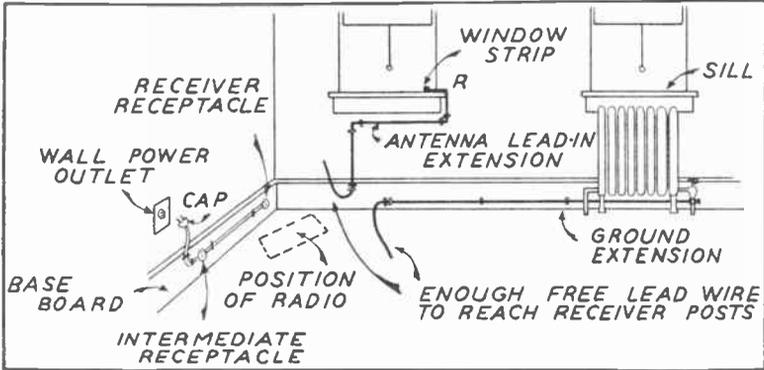
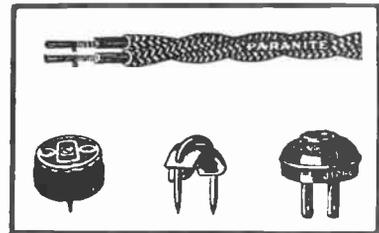

FIG. 4
FIG. 5. Typical material for a power extension
Figure 4 shows, among other things that I will shortly take up a typical power line extension. The actual lengths are shorter than they usually will be, so as to make our illustration compact. To do this job, you need (see Fig. 5) the following material:
**Inside Ground Extensions.** In the average home, an indoor or outdoor water pipe is the best ground. The connection to the water pipe is made, as you know, by means of a ground clamp. There are a variety of them. You are familiar with this phase of radio. What are you to use in place of the water pipe when it is too far away from the receiver? Perhaps a steam or hot water radiator is close by. Usually they are under the main window of the room. Figure 4 shows a typical condition.